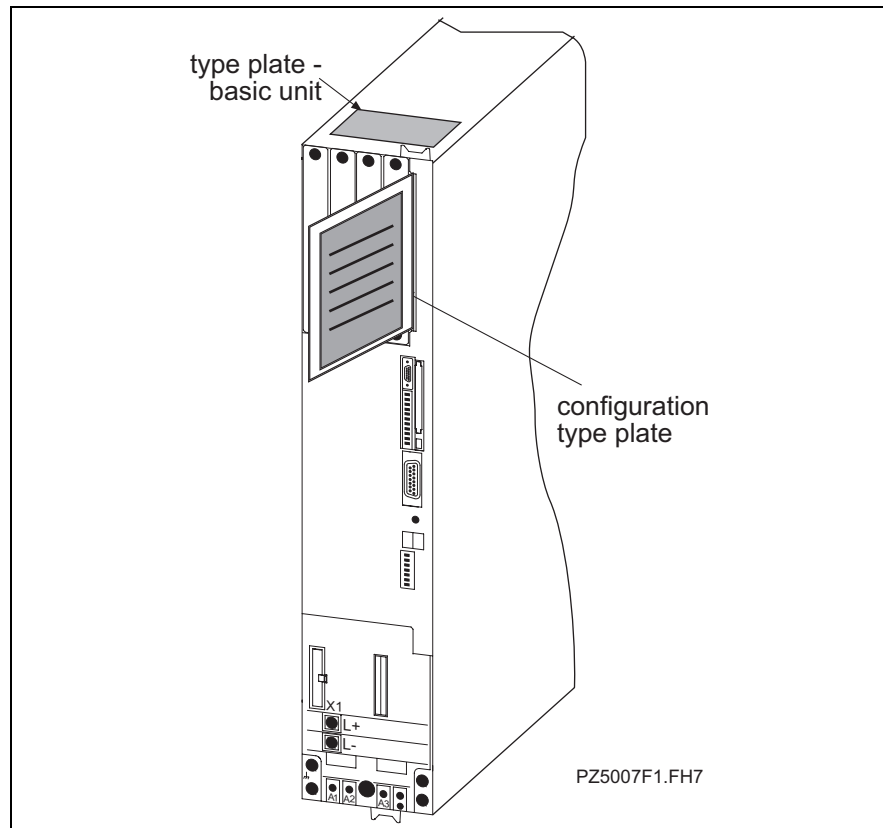

Fig. 10-2: Position of the type plates (HDS)
- Position of the type plate** The controller is clearly identified by two type plates (see Fig. 10-2) :